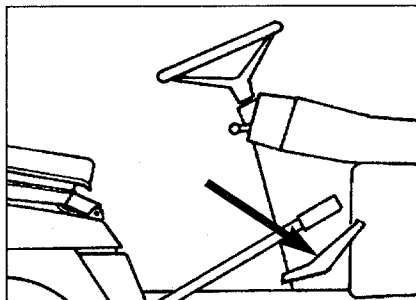

Figure 4-4: The Travel Pedal provides infinitely variable forward and reverse tractor speeds.
4. Place your right foot on the Travel Pedal. See Figure 4-4 below. The Travel Pedal provides infinitely variable speed. To go forward, slowly press the top of the Travel Pedal down. To go in